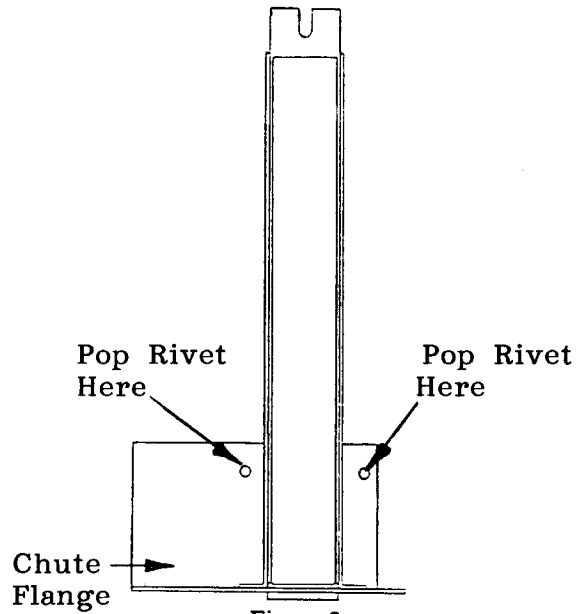

Figure 2
7. Secure the Multi Change Housing in position with four (4) #6-32 x 3/8 sems screws.
9. Install the w/a Multi Change Chute in position, loosely attaching the Multi Change Chute to the access door, with the existing screw, through the top slotted hole of the chute. (See figure 2 on page C2.)
10. Align the two holes in the flange of the Multi Change Chute with the holes in the access door. (See figure 2 on page C2.) Note: The access door goes between the chute and the chute flange. (See figure 3 on page C2.)